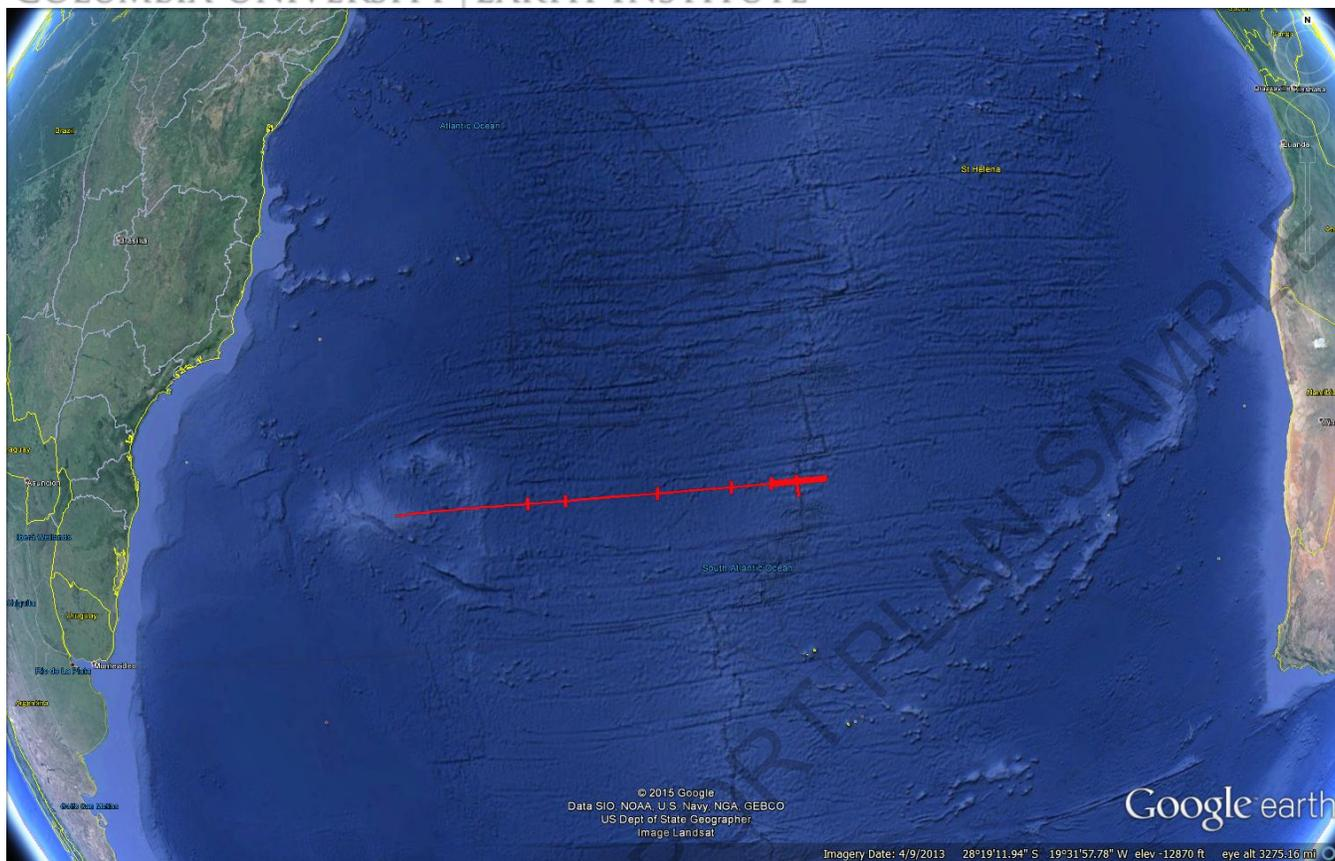

Figure 1.1: General location map and proposed survey area
- Figure 1.1: General location map and proposed survey area 7